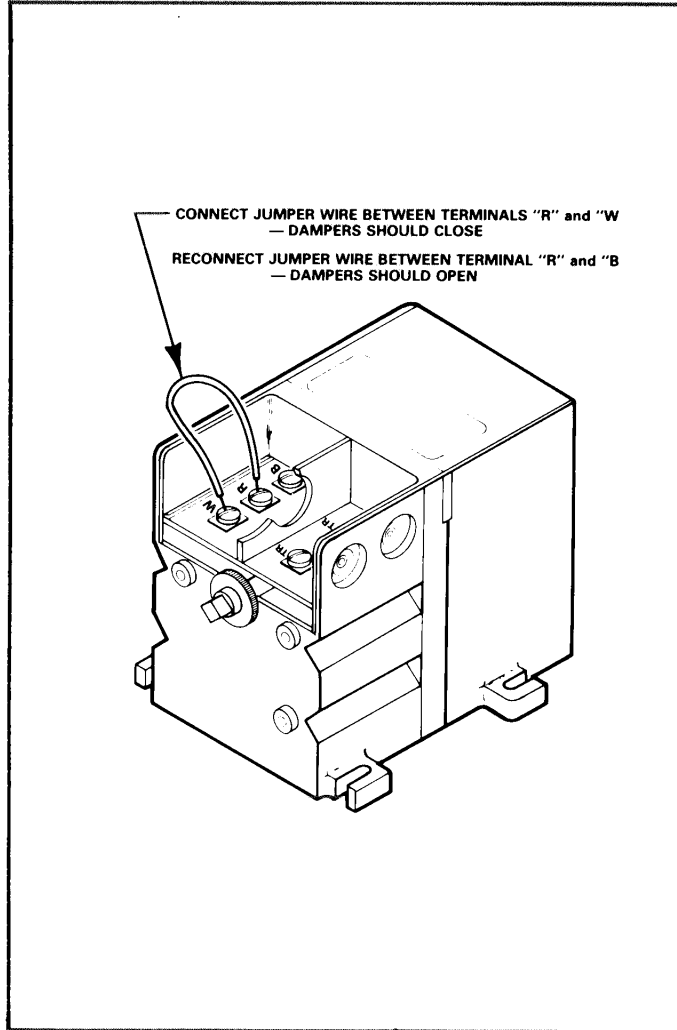

FIGURE 31
- 3 - Connect jumper wire to terminals R and W as shown in Figure 31. Outside dampers should drive closed.